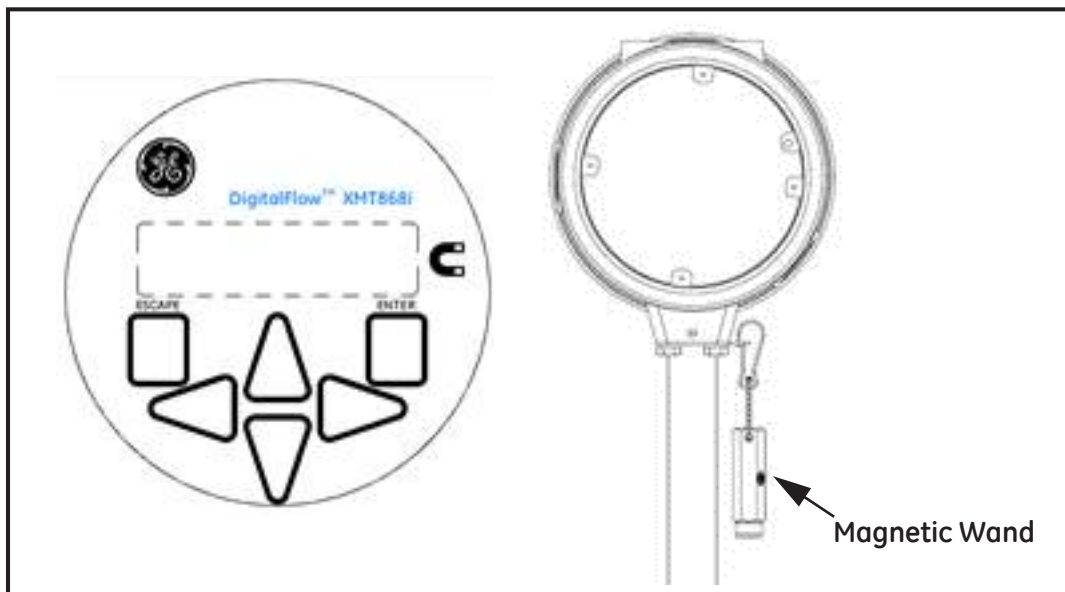

Figure 1: XMT868i Magnetic Keypad and Wand
- The keypad (shown in Figure 1 on page 2), which permits direct communication with the XMT868i
Use the magnetic keypad to navigate through the user program. The menu map may be followed in sequence, or the four arrow keys may be used to scroll through the prompt screens. Figure 1 shows the front of the XMT868i, with magnetic keypad and magnetic wand.